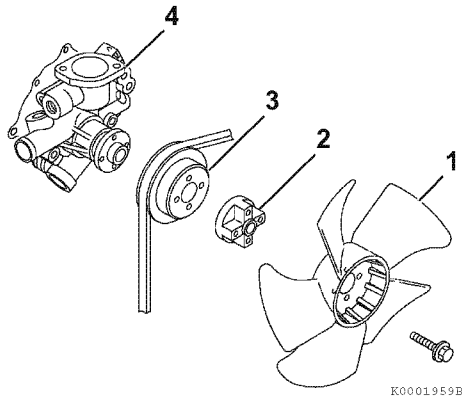

Figure 8-10
7. Reinstall the engine coolant pump V-pulley (3, **Figure 8-10**), spacer (2, **Figure 8-10**) engine coolant fan (1, **Figure 8-10**) and engine coolant fan guard (if equipped).